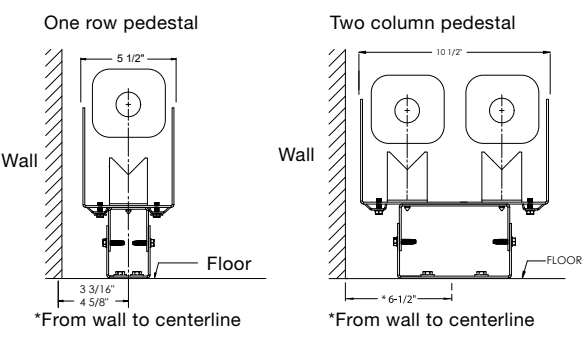

Figure P-3
3. Place the heating element on the pedestal. Before connecting the piping to the system, be sure to purge the system to insure against heating element blockage. Care must also be taken to prevent debris from entering the system when making the piping connections. (Figure P-3)